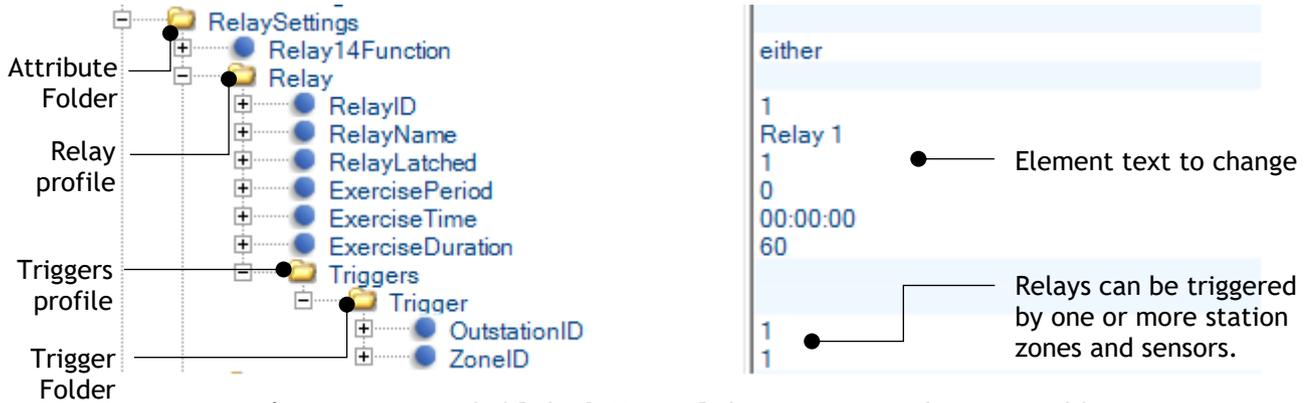

Figure 25: Expanded RelaySettings, Relay, Triggers and Trigger Folders
1. Click the **+** icon next to the **RelaySettings** attribute folder to expand it. The **Relay14Function** element will appear below, along with its **element text to change** in the right column (Figure 25).
RelayName	Relay Name (e.g. 'Relay 1; see Figure 25).
ZoneID	Zone ID. Sensor to trigger relay (e.g. Figure 25 shows Relay 1 will be triggered by the Interface board, Sensor 1). Contained in Trigger Folder .
1. Click the icon next to the **RelaySettings** attribute folder to expand it. All relay profile folders and configurable elements will appear below, along with **element text to change** in the right column (**Figure 25**).
2. Click the  icon next to the **Triggers** profile folder to expand it. At least one existing **Trigger** folder will appear below (**Figure 25**).
1. Click the  icon next to the **RelaySettings** attribute folder to expand it. At least one existing **relay profile** folder will appear below (**Figure 25**).